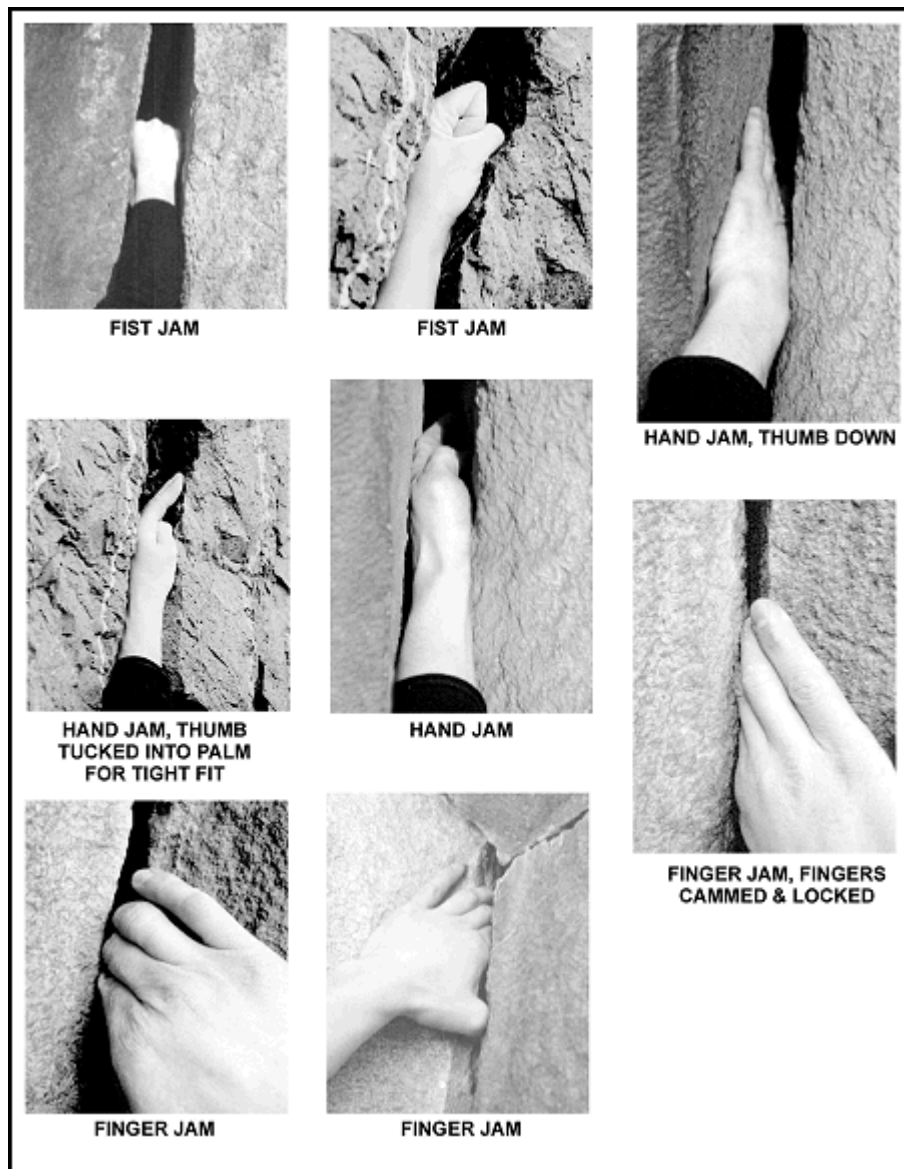

Figure 6-11. Examples of jam holds.
(4) ***Jam Holds.*** Like foot jams, the fingers and hands can be wedged or cammed into a crack so they resist a downward or outward pull. Jamming with the fingers and hands can be painful and may cause minor cuts and abrasions to tender skin. Cotton tape can be used to protect the fingertips, knuckles, and the back of the hand; however, prolonged jamming technique requiring hand taping should be avoided. Tape also adds friction to the hand in jammed position. (Figure 6-11 shows examples of jam holds.)